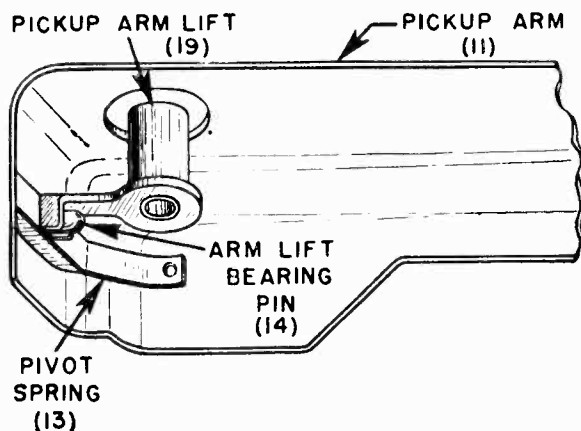

FIGURE 5.
- (b) Lift the pickup arm and check to see that the pickup arm lift (19) is positioned properly over arm lift bearing pin (14). (See Fig. 5).
- (d) Loosen set screw in lift adjusting collar (10).
- (e) Remove slack by pushing up on push-off cam and shaft assembly (42). Do not compress the arm lift shaft spring (41).
- (f) Using a #6-32 Bristol wrench, place it in the set screw and slide the lift adjusting collar (10) down until it is snug against the pickup arm lift (19).